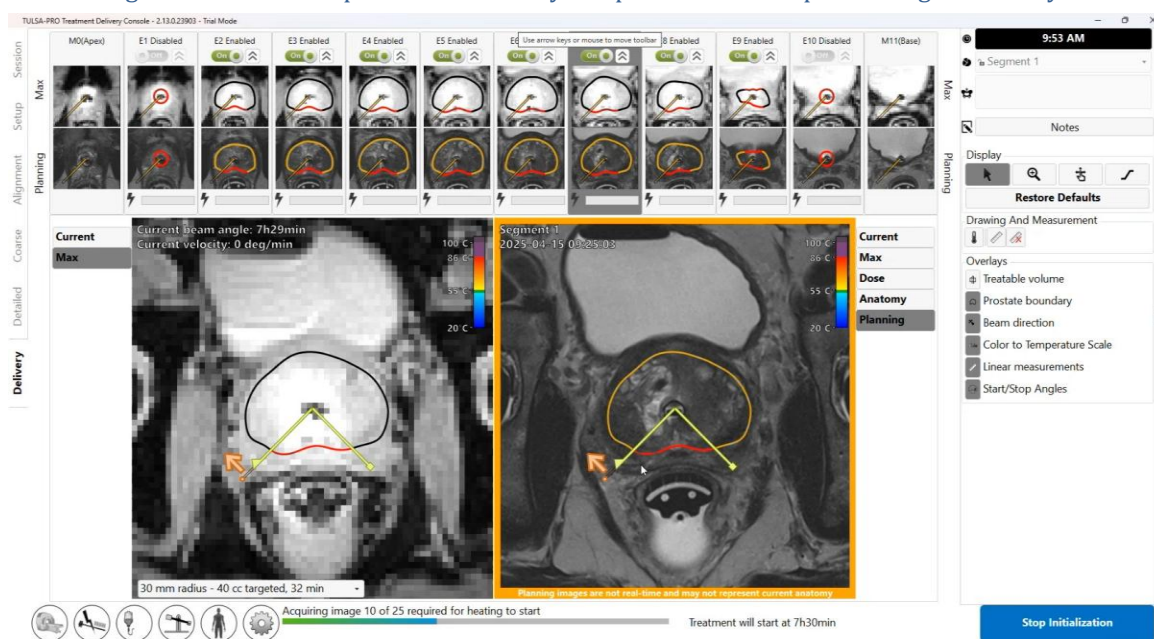

Figure 47: Treatment Initialization state
2. Radiologist: Click **Start treatment** on TDC. A window will prompt you to verify the core body temperature using an external temperature measurement device before proceeding. Enter the temperature in degrees Celsius and click **Confirm**. The software will enter **Treatment Initialization** where it will wait to receive thermometry images (*Figure 47*).